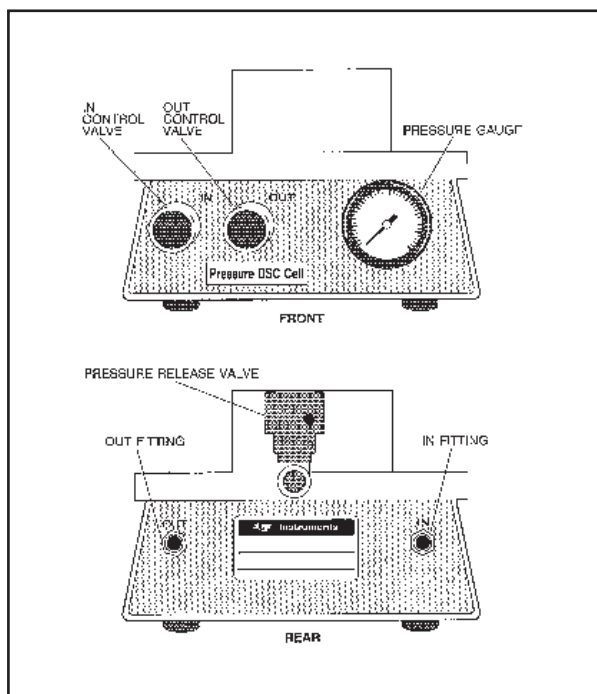

Figure 3.7
1. Close the IN control valve (see Figure 3.7) to shut off the gas supply to the cell.